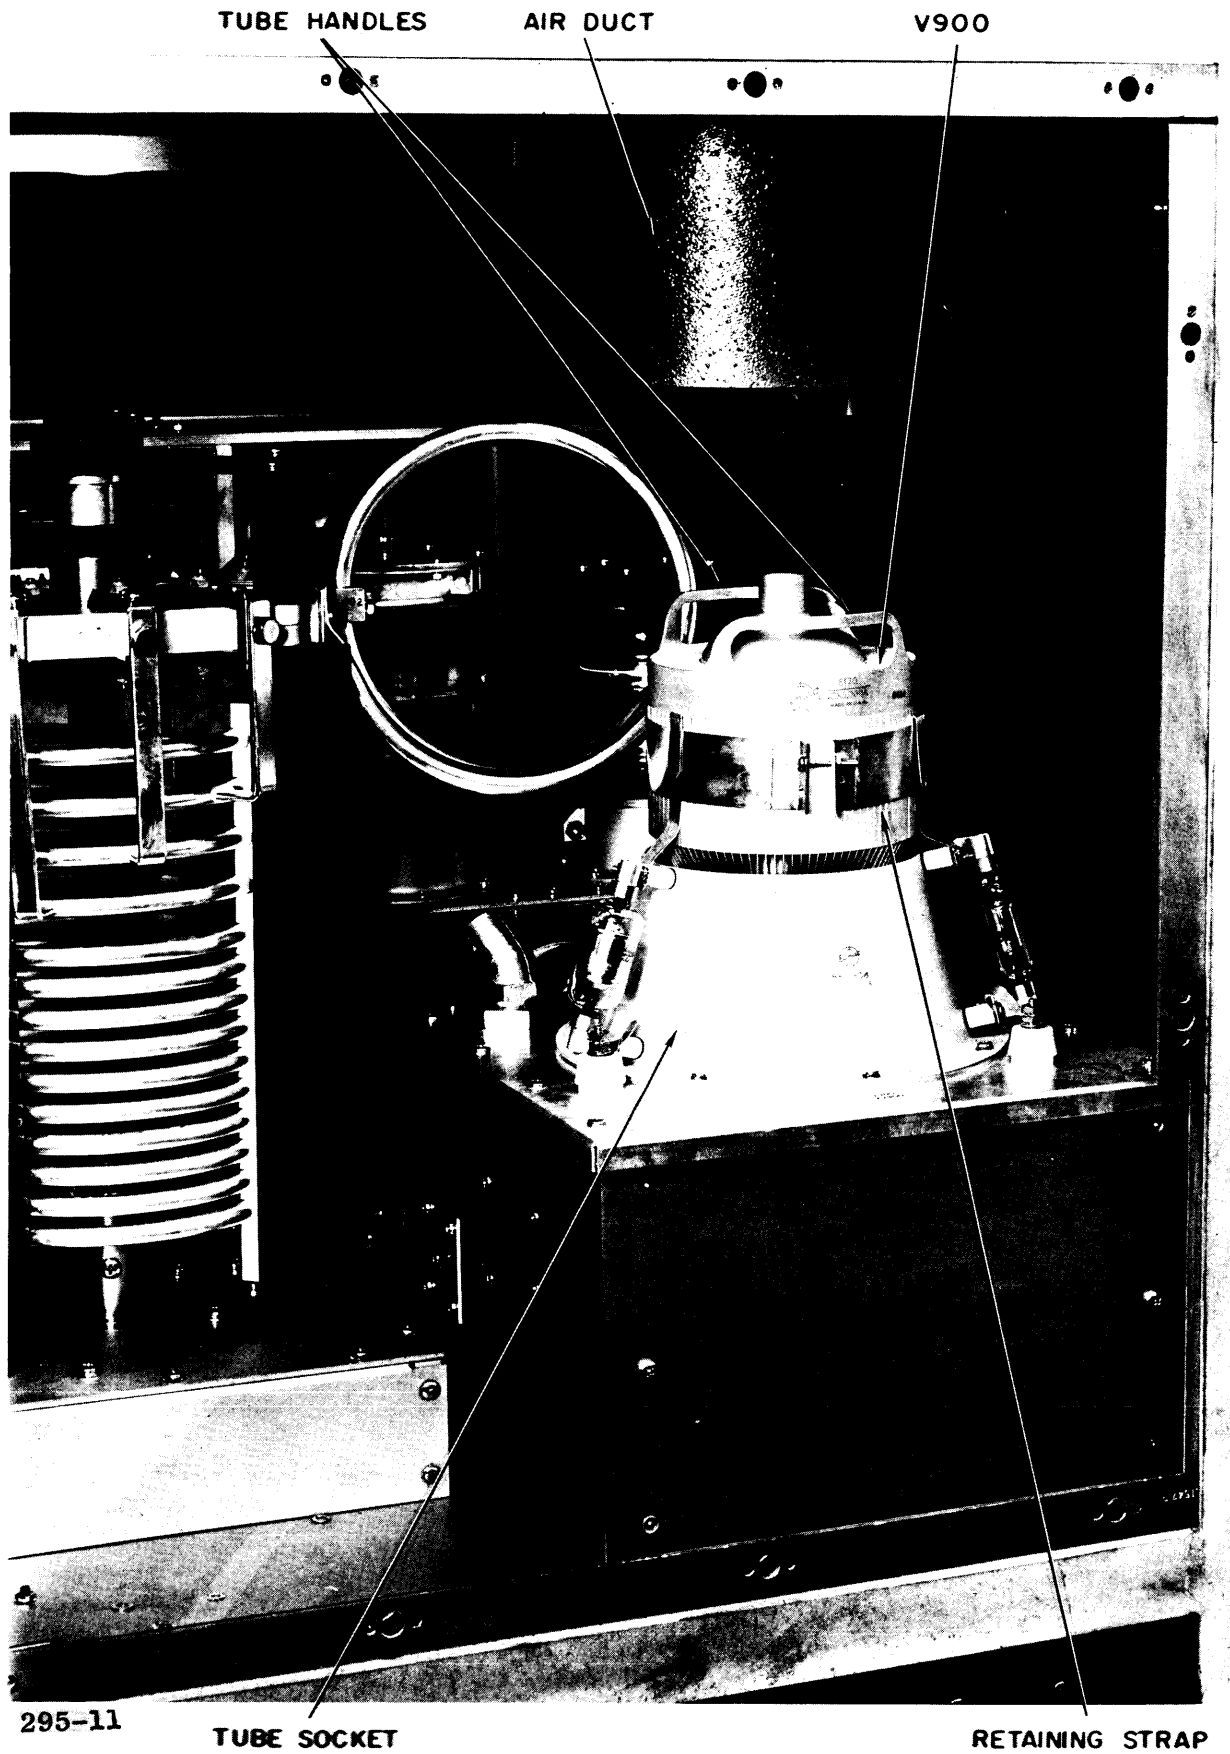

Figure 4-6. Upper Compartment of Second Frame, Rear View
- a. Remove hardware from retaining strap (figure 4-6).